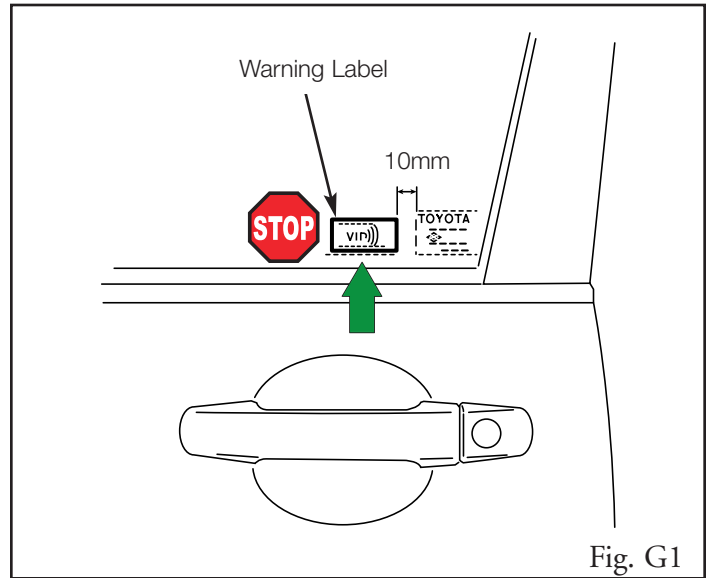

Fig. G1
- ➔ 1. Clean the inside surface of the front door's windows. (Fig. G1)
- ➔ 2. Place the warning label on the inside surface of the front door's windows as shown. (Fig. G1)